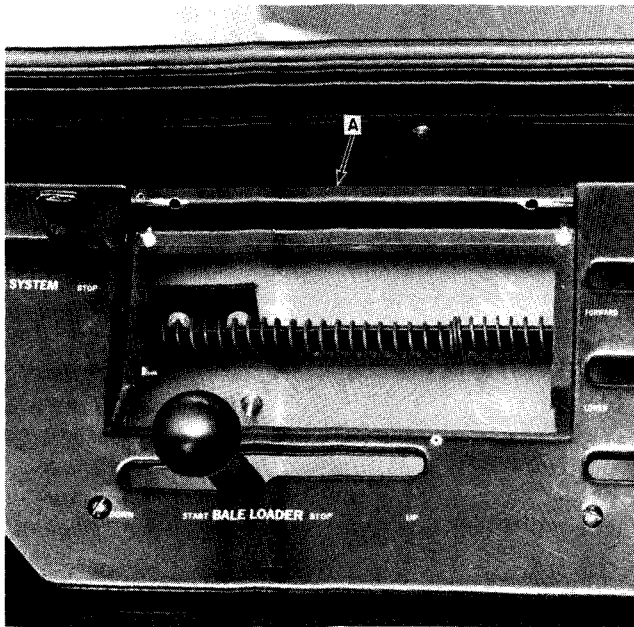

FIGURE 2-4
7. Install bracket, A, Figure 2-4, as shown using two #10 x 1/2 truss-head machine screws, lock washers, and nuts.